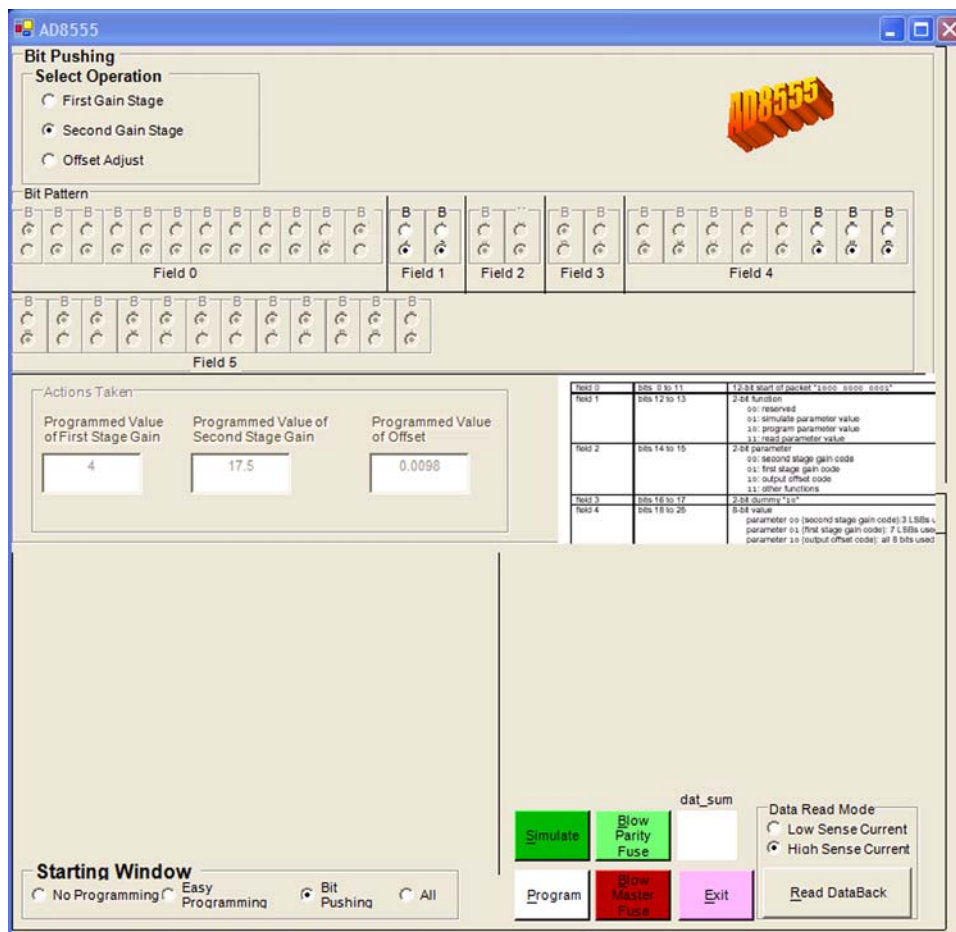

Figure 5. Bit Pushing Mode
1. To select the bit pushing mode, click **Bit Pushing** in the **Starting Window** at the bottom of the AD8555 software dialog box. The dialog box shown in Figure 5 appears.